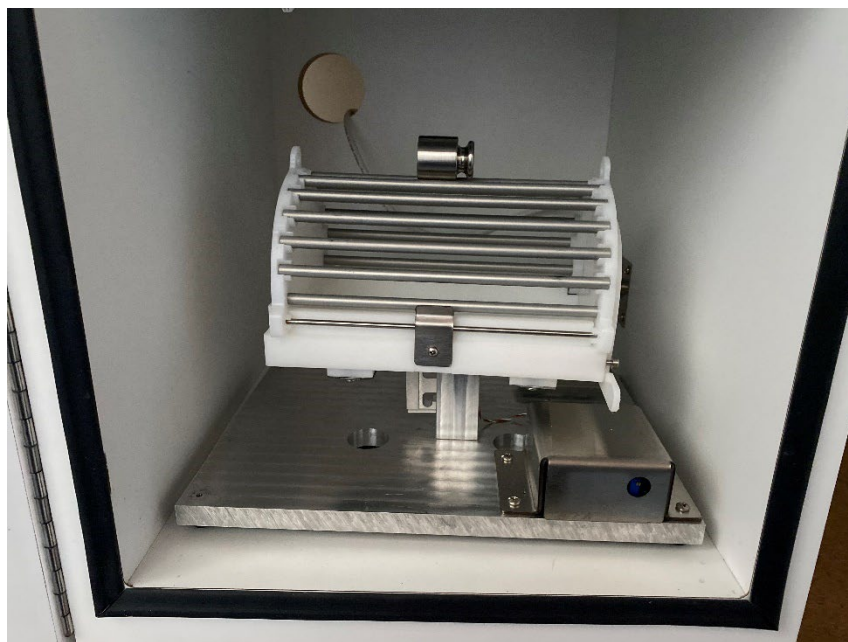

Figure 117 100gm Weight Location
9. Place the 100gm weight on the sensing plate in cabinet #1 (Figure 117).